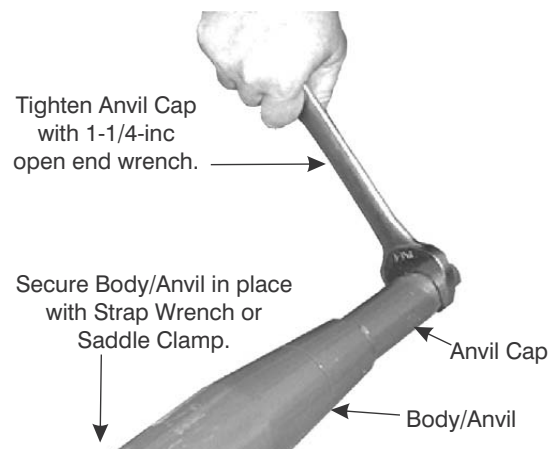

Figure 9-54. Tighten Anvil/Cap.
4. Hold the Body/Anvil (1) in place with a strap or chain wrench. See Figure 9-54.
5. With a 1-1/4-inch open-end wrench, tighten the anvil cap a minimum 1/8-inch past hand tight. See Figures 9-54 and 9-55.